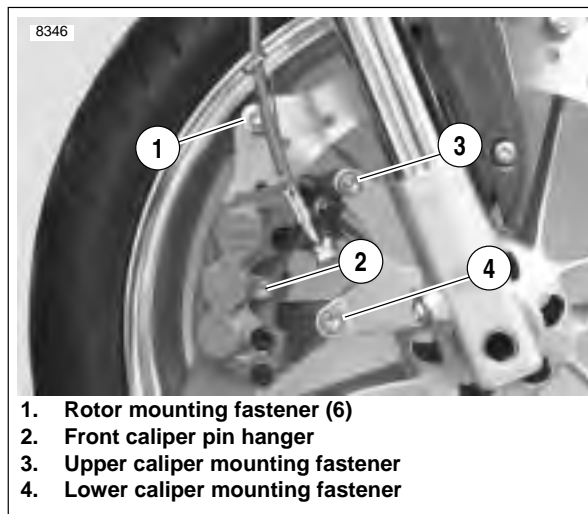

Figure 1-16. Front Brake Caliper
1. See Figure 1-16. Loosen pin hanger (2) but do not remove.
2. Rotate wheel so that caliper is centered between rotor mounting fasteners (1).
3. Remove lower caliper mounting fastener (4) that secures caliper to fork lower.
4. Loosen but do not remove upper caliper mounting fastener (3) that secures caliper to fork lower.
5. Remove pin hanger (2).
4. See Figure 1-16. Install pin hanger (2) making sure it engages hole on both pads and spring clip.
6. See Figure 1-16. Install lower caliper mounting fastener (4).
8. Tighten pin (2) to 11-14 ft-lbs (15-19 Nm).